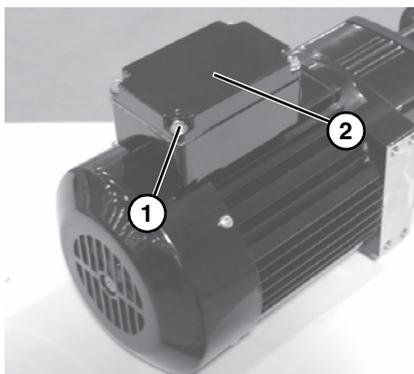

Figure 7
- a. Loosen terminal box screws (**Figure 7, item 1**) and remove cover (**Figure 7, item 2**).